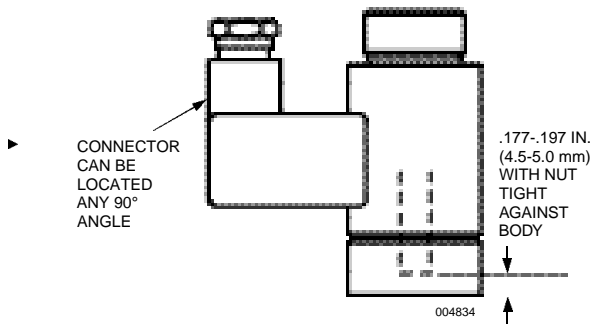

Figure 36 - Actuator Non-Fire Position
- Check the actuator mechanism to ensure that it is in the non-fired position, i.e. pin retracted (see Figure 36).